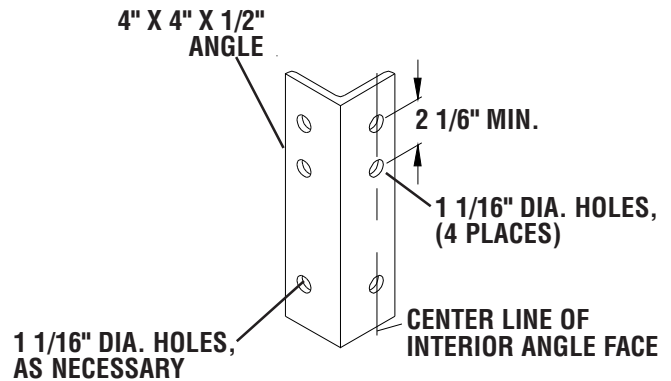

Figure 39
1. Start by cutting two 4" x 4" x 1/2" angles to the height of the rear plate. See Figure 39.